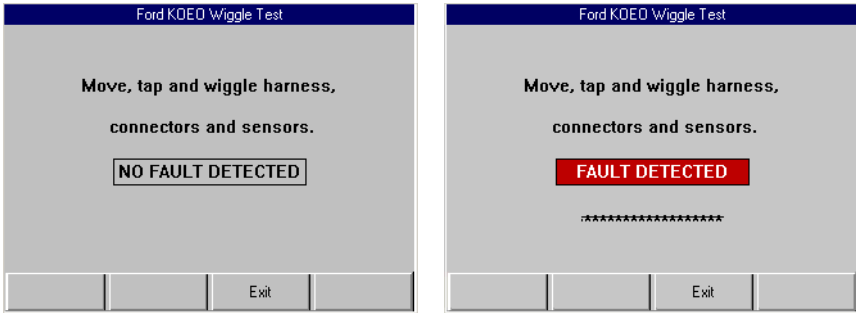

Figure 3.53: Wiggle Test Screens — No Fault and Fault Detected
- 8 Read the screens and follow all instructions. If necessary, use the **function keys** to answer any questions. Do this until the test screen appears (Figure 3.53 on page 59).